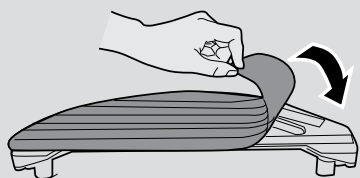

Fig. 15
3. Align the water tank with the Robot's bottom part and push it into its correct position until you hear a click indicating it is properly fixed. [Fig. 15]